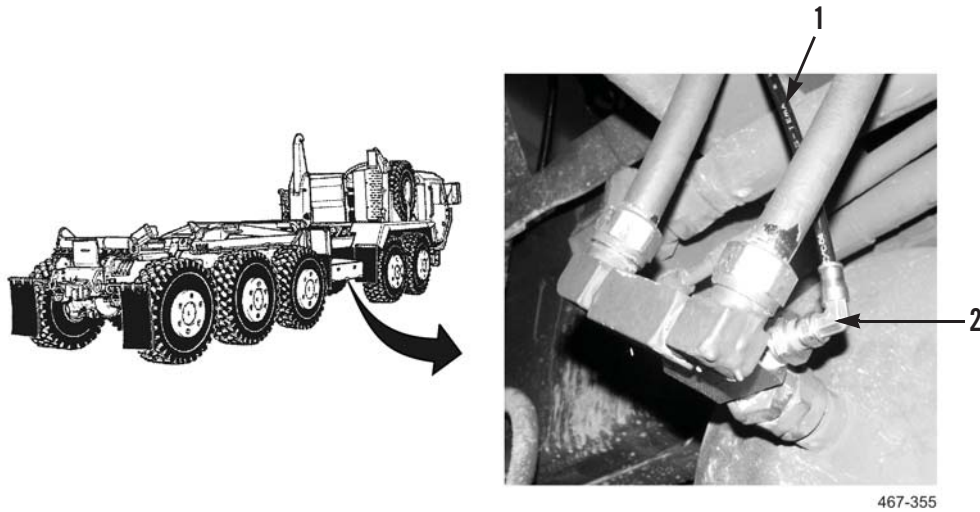

Figure 4. PLS Air Tank Hose Removal.
5. Disconnect pneumatic hose (Figure 4, Item 1) from press-lock fitting (Figure 4, Item 2).